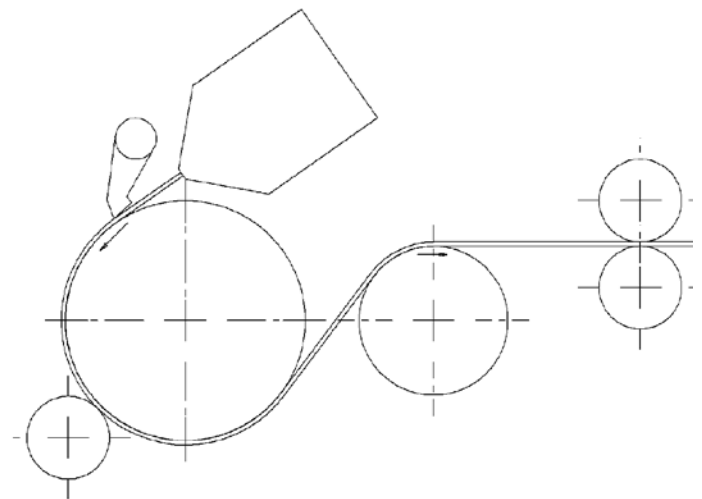

Figure 36.19 (Courtesy of Borealis AG)
- Chill roll technology (Figure 36.19)